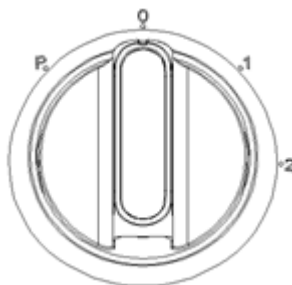

Fig .1
3. Make sure that the control knob is switched to “0” position. (Fig 1)